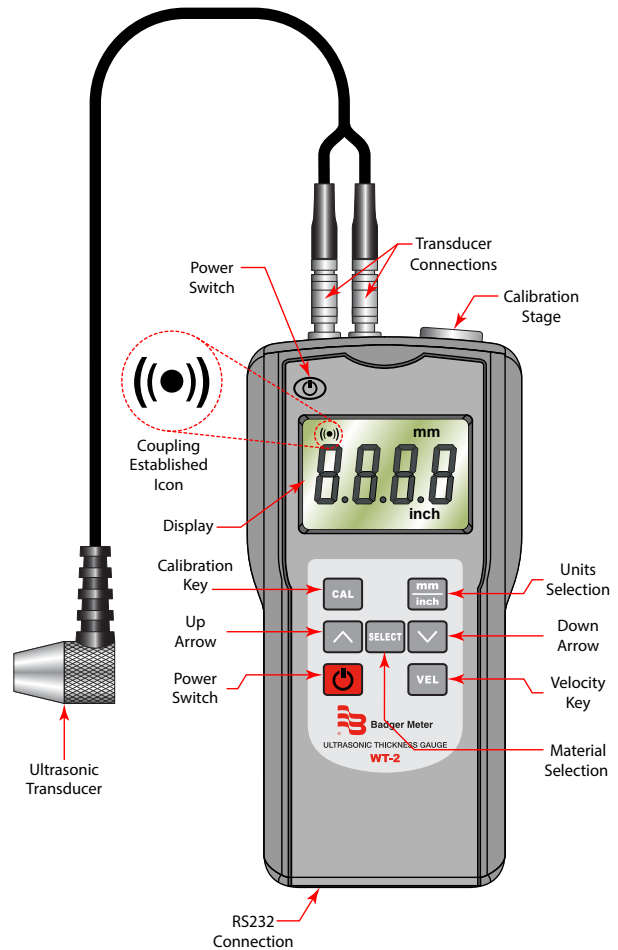

Figure 1: Gauge description and controls
6. Verify that coupling is established and the coupling icon is on (see *Figure 1*).
5. Verify that coupling is established and the coupling icon is on (see *Figure 1*). As long as the pipe's sound speed is set correctly, the reading on display is the wall thickness of the pipe.